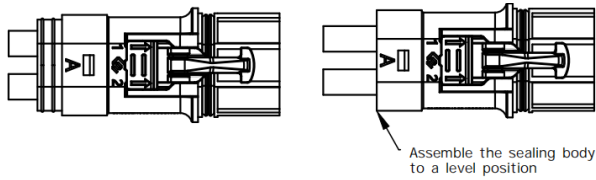

Figure 6-18-6 Push the sealing body into the shell
- 6) Push the sealing body into the shell so that it is flush with the shell, as shown in Figure 6-18-6.